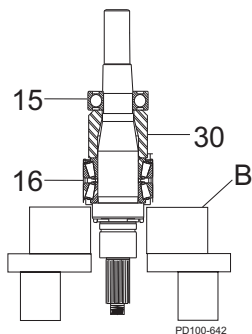

Figure 199 - Remove Bearings From Shaft
11. Use a hydraulic press and V-blocks (Figure 199, item B) to remove the bearings (items 15 and 16) and spacer (item 30).